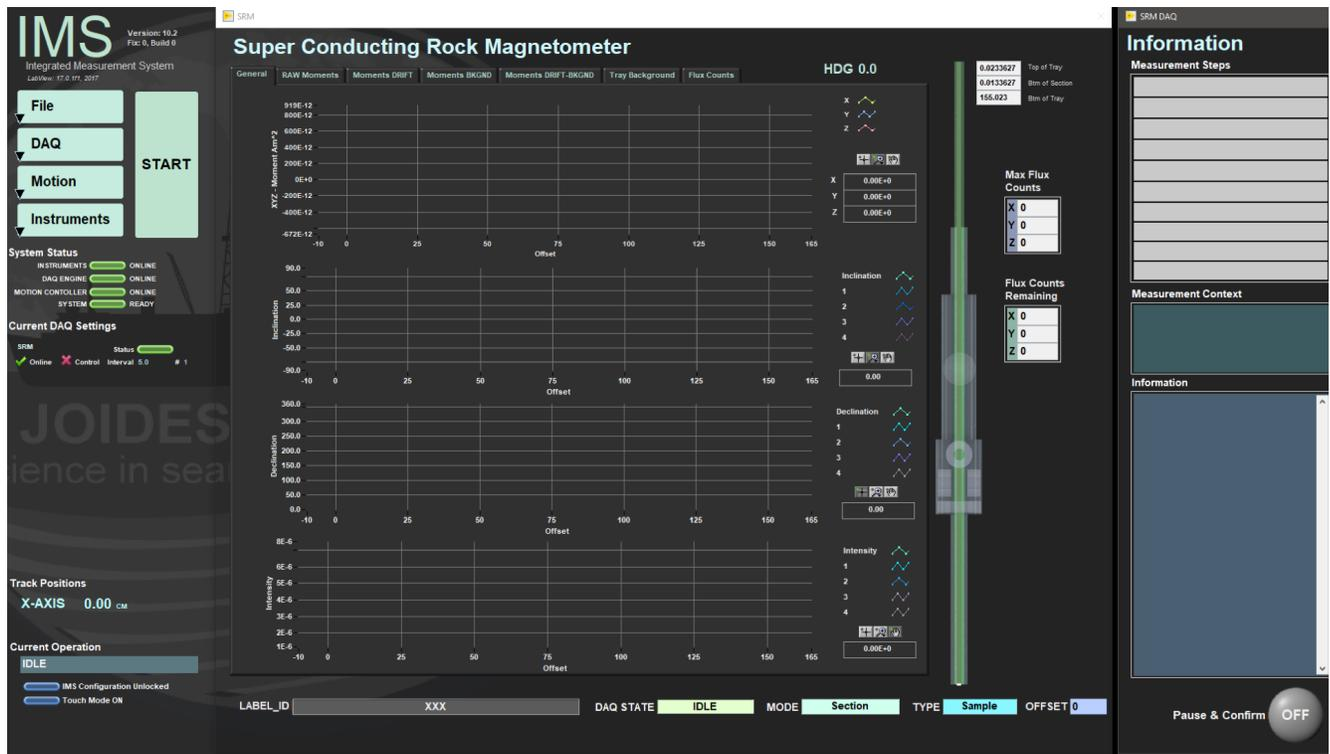

Figure 2. IMS-SRM main screen.
Once the program launches, the user will see the main IMS-SRM window (*Figure 2*). The leftmost panel contains the controls for changing the setup and for starting the SRM measurements. The center panel allows the user to view the data as it is collected and monitor the measurement process. The right panel display indicates which measurement sequence is selected and which step is being executed, as well as other pertinent information.
4. Once user has created the finalized sequence, select **Accept** and the user will be prompted to name the sequence and then returned to the main screen (Figure 2).
1. To start a measurement select the **START** button on the left hand side of the main SRM-IMS screen (Figure 2). The Sample Information window will open (Figure 10).
7. Click **Measure** to begin measurement. A window similar to *Figure 2* will open and display the measured data in real time.